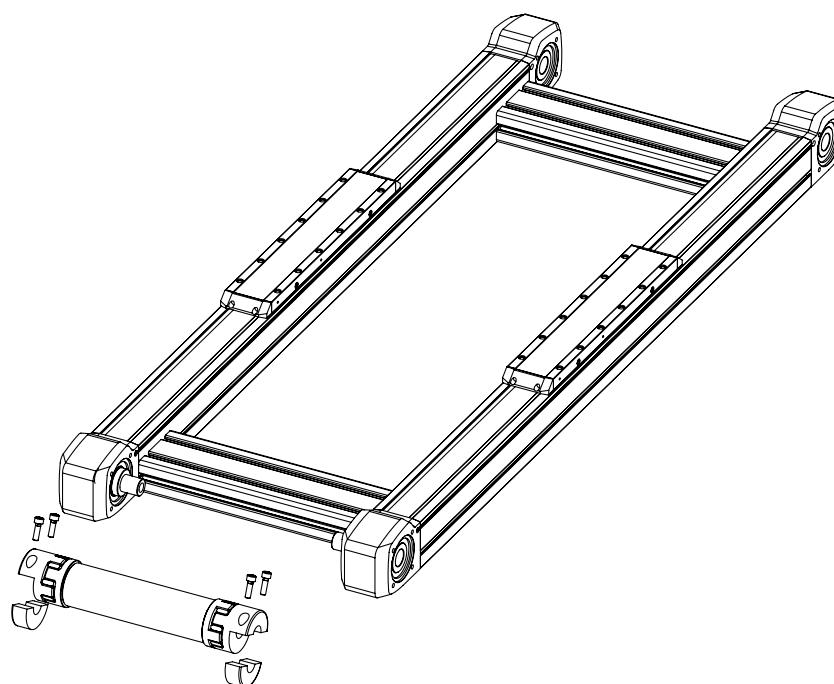

Fig. 7.19 Mounting the synchronous shaft
- ▶ Mount the journals at both ends as described in Section 7.7.5, see Fig. 7.19.